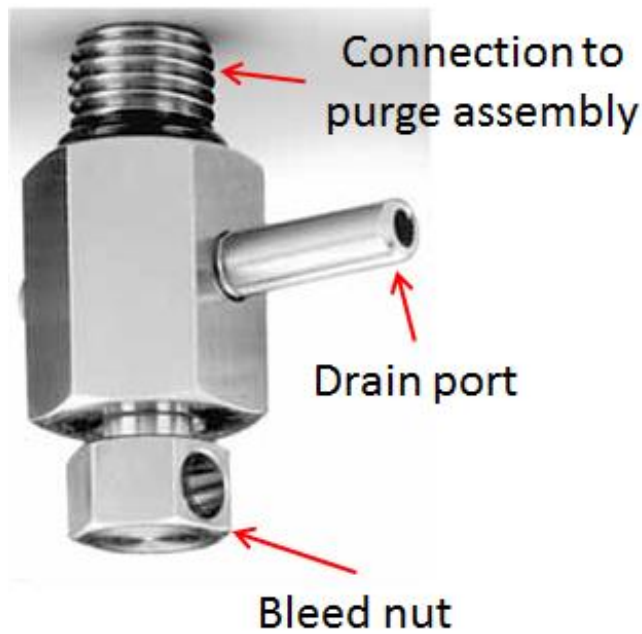

Figure 7.3: Bleed valve on bottom of purge port.
3. Open the bleed valve by turning the bleed nut 1/4 turn, see Figure 7.3. Take care as the purge assembly may be pressurized.